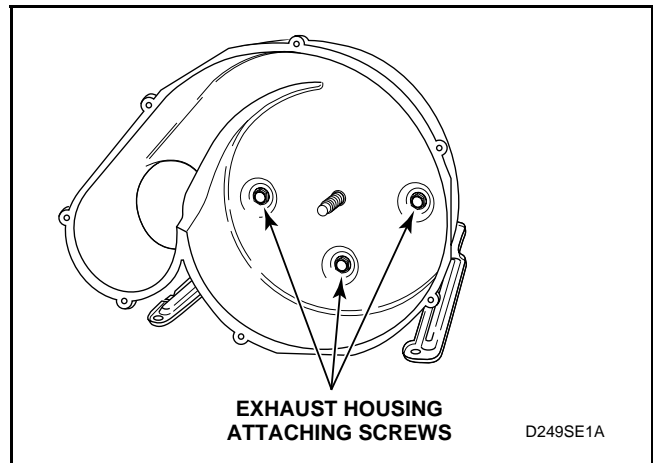

Figure 23
- (3.) Remove three screws holding the exhaust housing to the motor mounting bracket. See *Figure 23*.